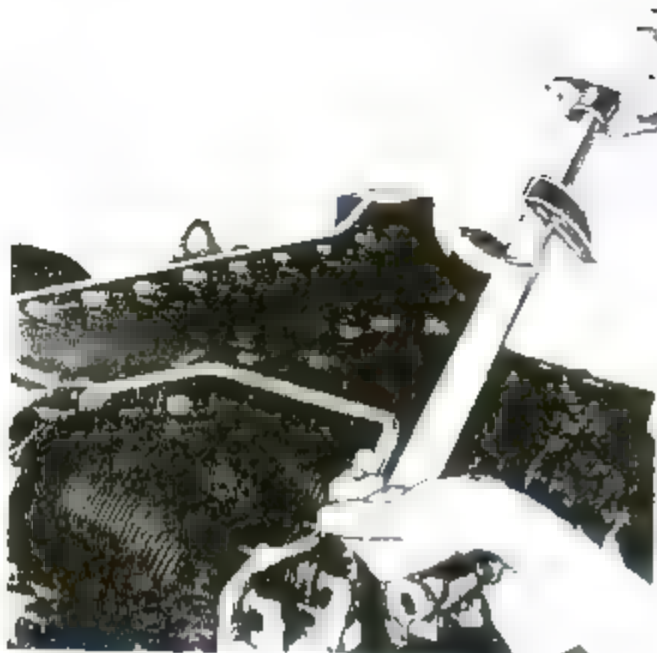

Figure 7-7. Tightening Cylinder Base Nuts
g. Using a torque indicating wrench and the Group 4 cylinder base nut wrench (see figure 7-6), tighten the cylinder base nuts to the torque specified in Section X for 7/16-20 cylinder base nuts, in the sequence shown in figure 7-7. Then starting with No. 1 (figure 7-7), go around the cylinder base in a clockwise direction, tightening the base nuts to their specified torque. Install nut locks on all through bolts and crankcase studs after the base nuts have been tightened.